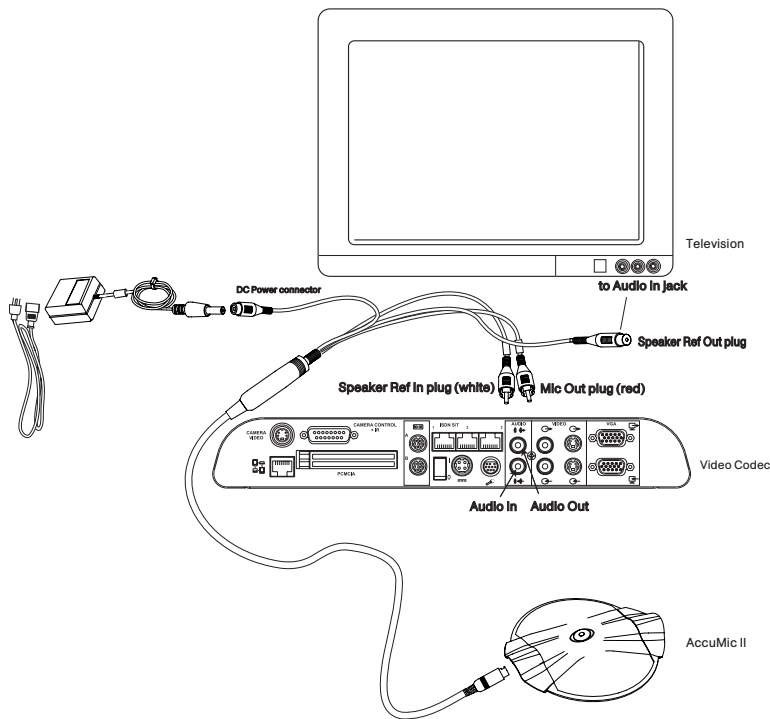

Figure 3. AccuMic II connections
1. Connect the 10-pin end of the mini-DIN cable to the 10-pin connector on the AccuMic II (see Figure 3).